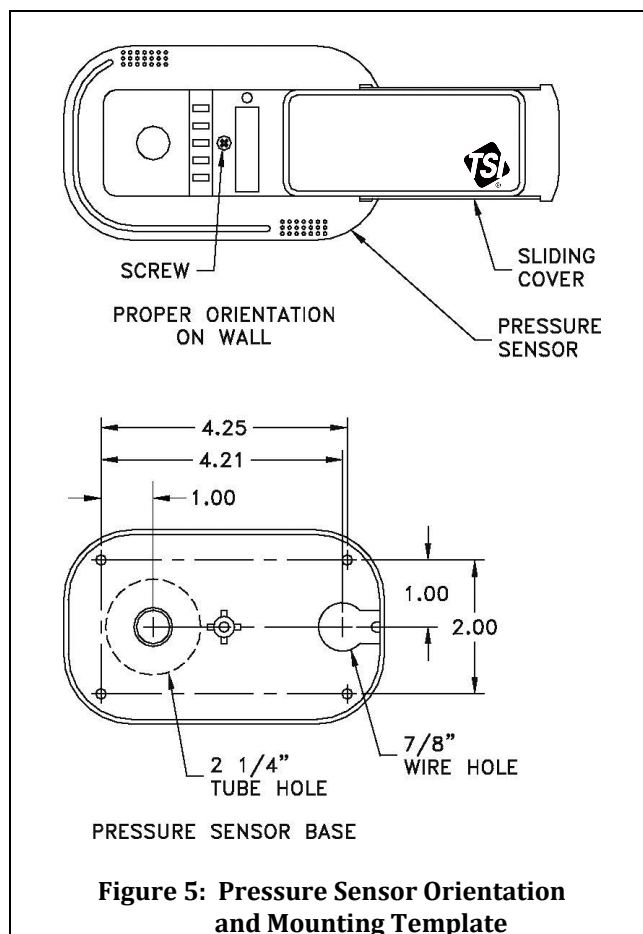

Figure 5: Pressure Sensor Orientation and Mounting Template
- 2) The pressure sensor must be orientated on the wall as shown in Figure 5. Looking at the mounted sensor, sensor hole is on the left ($2\frac{1}{4}$ ") and wire hole is on the right.
- 4) Drill a $\frac{7}{8}$ -inch hole on the side of the wall that the pressure sensor will be mounted. This hole is for the six-conductor sensor cable. Refer to Figure 5 for a hole mounting pattern.
- 5) Slide sensor cover to right and remove screw that holds the sensor base to the pressure sensor (Figure 5). Remove pressure sensor and store in a safe place.